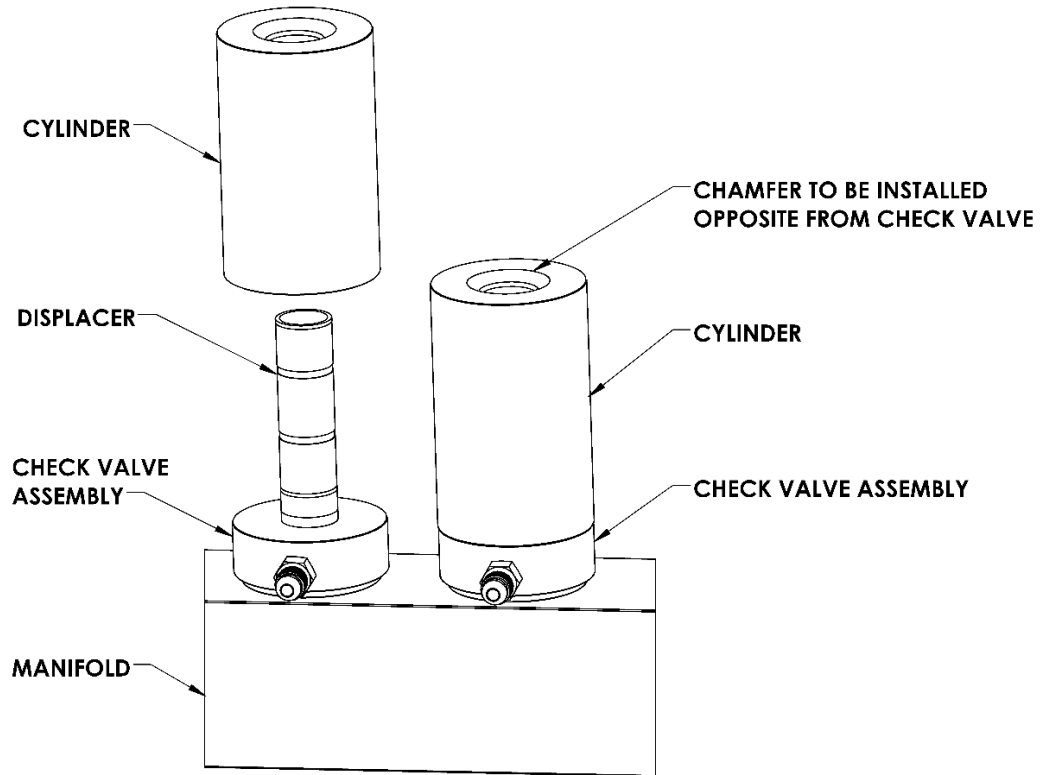

Figure 34 Sliding the Cylinder Over the Displacer
4. **Apply** light coat of Lubriplate just inside bore of the cylinder and on end of the cylinder without the large chamfer (see **Figure 34** on next page). **Install** the cylinder over the displacer, long seal ring, and short support ring until it makes contact with the check valve body.